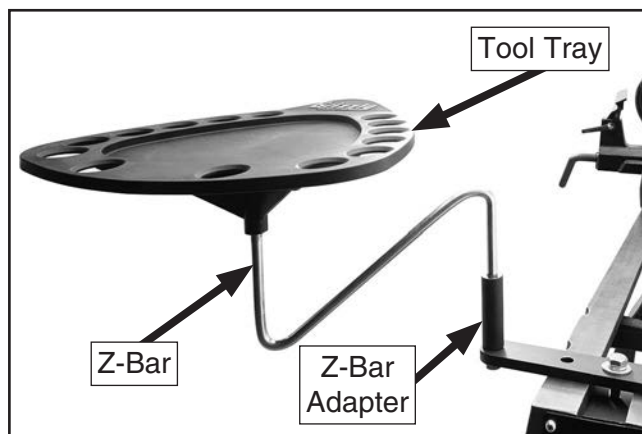

Figure 5. Wood lathe tool holder installed.
4. Insert Z-bar fully into adapter (see **Figure 5**).
5. Place tool tray on Z-bar (see **Figure 5**).